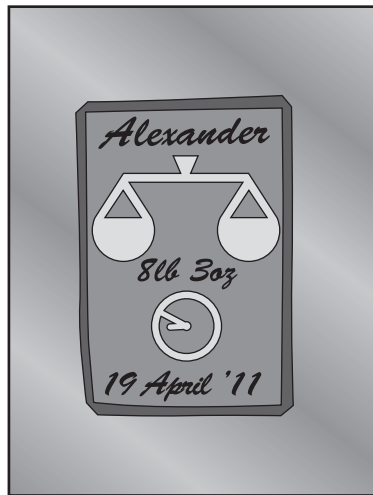

Fig. 4
- 3 Fig. 4 shows a quilt cover decorated using appliqué.